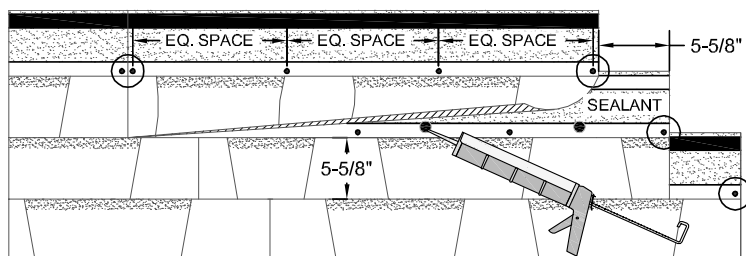

Figure 7 - Hand-Sealing Laminate Shingles
To hand-seal a shingle, apply four (4) quarter-size dabs of asphalt roof cement conforming to ASTM D4586 evenly spaced under each shingle, and press shingles firmly into the cement. Excessive use may cause blistering; correct amounts should not bleed out from under the shingle. **(See Figure 7)**